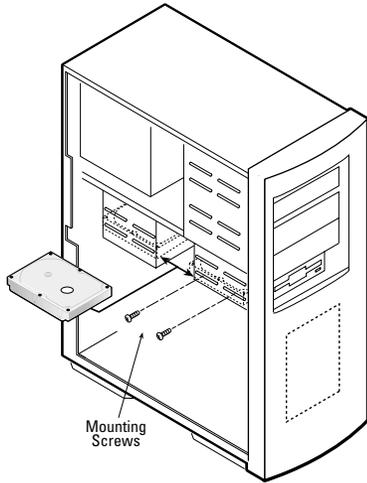

Figure 7. Typical 3.5-inch Device Bay Installation
- ▶ **Mount the hard drive in the 3.5-inch bay using four of the screws included in the kit.** See Figure 7.